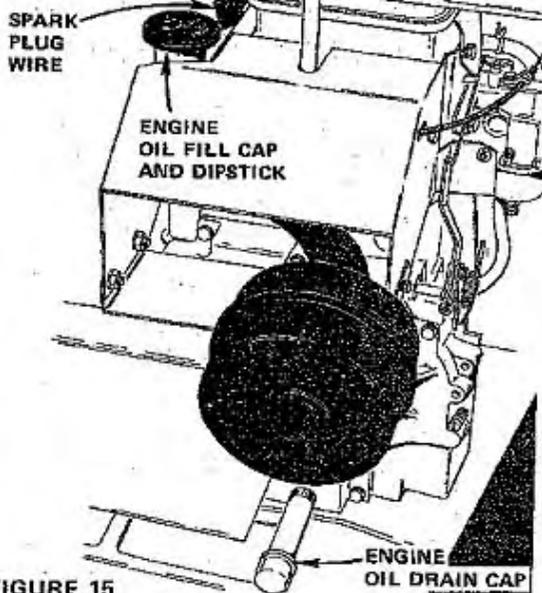

FIGURE 15
DISCONNECT SPARK PLUG WIRE (FIG. 15) TO PREVENT ACCIDENTAL STARTING BEFORE MAKING ANY INSPECTION, ADJUSTMENT (EXCEPT CARBURATOR) OR REPAIR.
- Drain Oil with Engine warm. Unscrew Oil Drain Cap (Fig. 15) and catch Oil in a suitable container. Replace Cap.
- Refill Engine Oil (Fig. 15). In summer use S.A.E. 30 (SC, SD or SE) Oil. In winter (below 32°F.) use S.A.E. 10W30 (SC, SD or SE) or 10W40 (SC, SD or SE). In extreme cold (below 0°F.) use S.A.E. 5W20 (SC, SD or SE). Refill capacity is 2 - 7/8 pints. **NOTE: DO NOT OVERFILL.**